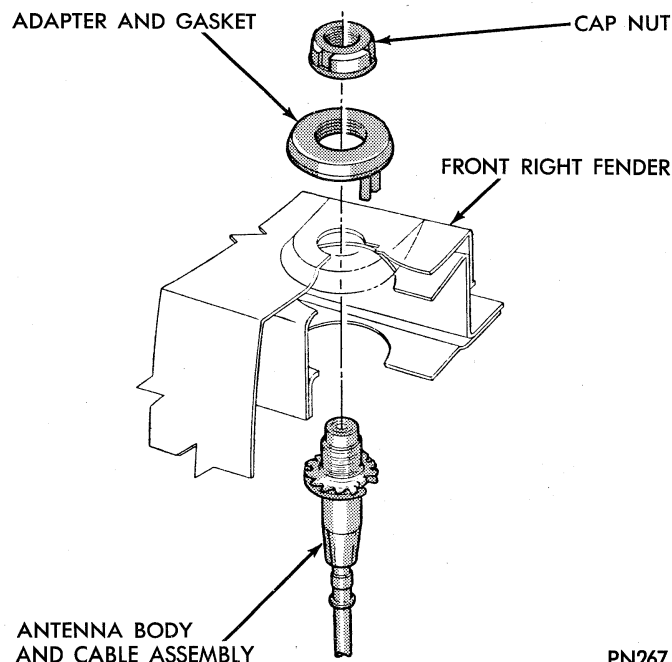

Fig. 7—Antenna Mounting
- (3) Remove capnut (Fig. 7).
- (4) Remove antenna adapter and gasket.
- (5) From under fender remove antenna lead and body assembly.
- (1) Install antenna body and cable from underneath fender.
- (2) Install gasket, adapter and capnut. Tighten capnut to 125 inch-pounds, plus or minus 25 inch-pounds with Tool C-4227 (Fig. 7 and 8).